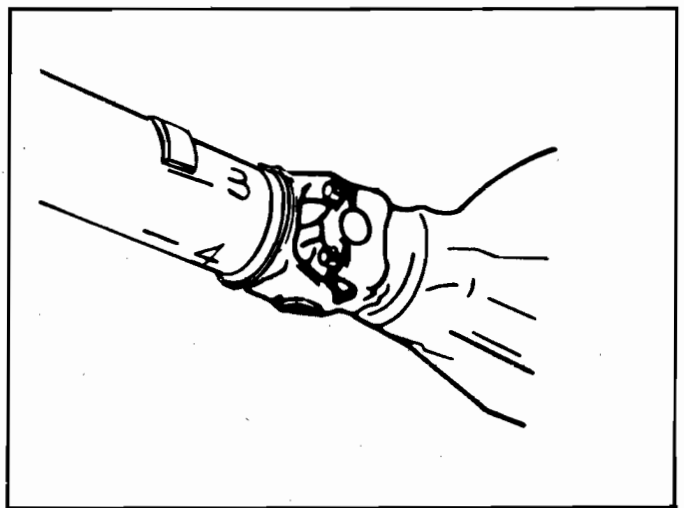
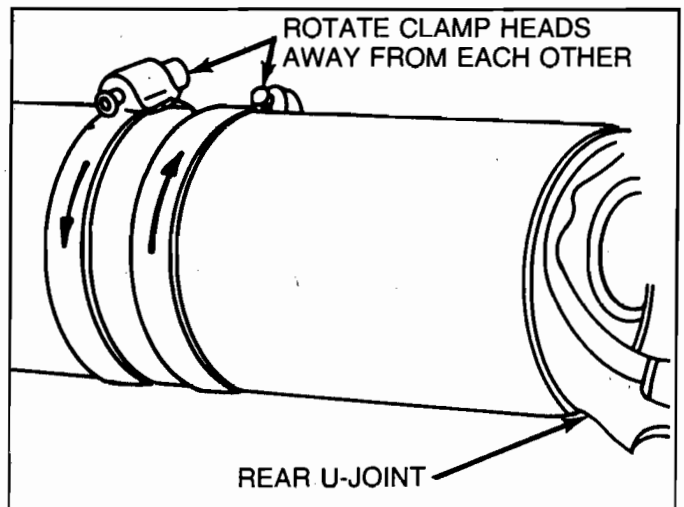
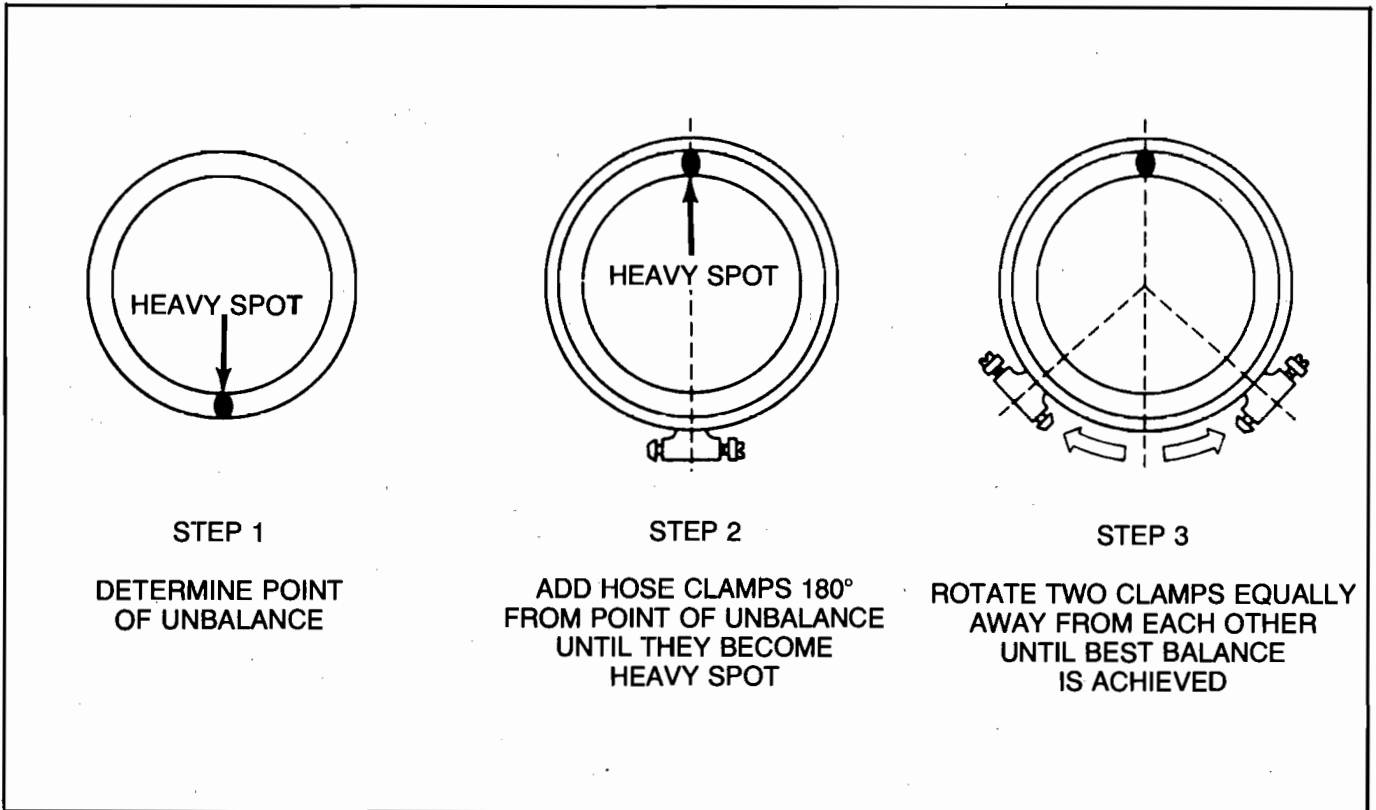

Figure 4-5 — Chalk Reference Marks on Propeller Shaft
Figure 4-6 — Balance Hose Clamps in Position
Figure 4-8 — Hose Clamp Positions to Balance Shaft
The following drive shaft balance procedure can be applied to a motor home and the procedure can be performed on the shop floor. **The wheels should be blocked and both axle shafts should be removed to prevent any possibility of spider gear spin-out during the balancing process.** The procedure requires the service technician to place four chalk marks (numbers 1 through 4) on the propeller shaft. (See Figure 4-5 and Figure 4-6.)
Run the engine and drive shaft speed up to the point vibration is felt and note the speed showing on the speedometer. Also, note the "intensity" of the vibration. **STOP THE ENGINE AND DRIVE SHAFT.** Install a hose clamp and position the screw pointing toward one of the chalk reference marks. (See Figures 4-5 and 4-6.) Retest for vibration and note any gain or loss in vibration disturbance. A single hose clamp will *usually* increase or reduce the vehicle vibration by feel. The screw portion of the hose clamp is the weight being moved around the shaft.
2. Mark and number the drive shaft at four points 90 degrees apart around each shaft just forward of the balance weights. (See Figure 4-5.)
6. Install two hose clamps on the drive shaft as close to the rear of the drive shaft as possible, as shown in Figure 4-6. Position both screw clamp heads 180 degrees from the heavy point of the shaft as shown by the strobe light. (See Figure 4-8.) Tighten clamps.
8. Rotate two of the hose clamps equally away from each other toward the top (one each way from the original position as shown in Figure 4-8) in small amounts until you find the best possible balanced condition. In some cases, it may be necessary to use one clamp or possibly as many as three clamps to obtain a proper balance.